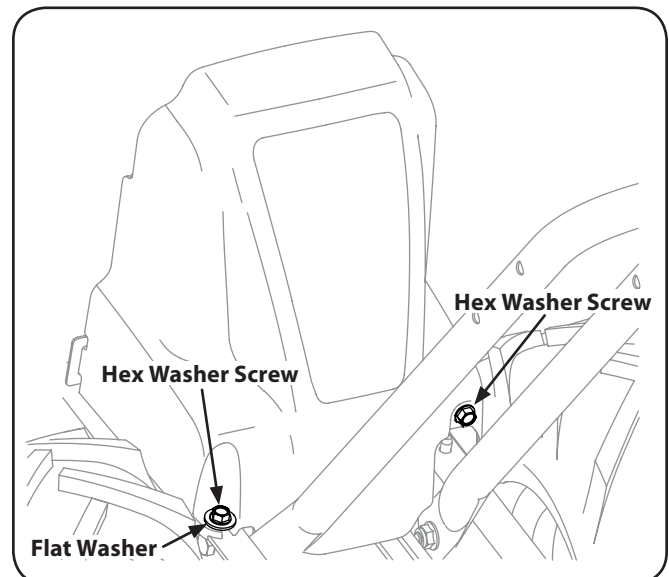

Figure 7-2
3. Remove the hex washer screw ($\frac{1}{4}$ -20 x .500) and flat washer (.28 x .74 x .500) from the left side of the belt cover (if so equipped) and the hex washer screw ($\frac{1}{4}$ -20 x .500) from the right side of the belt cover. Remove the belt cover. See Figure 7-2.